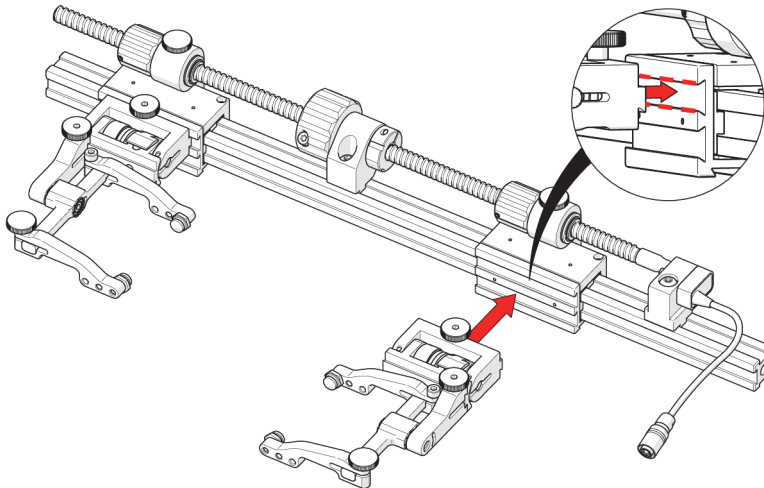

Figure 3-14 Mount probe holders
1. Attach the probe holders to the top groove on the mounting bracket of the slider (see Figure 3-14 on page 88 and “Slip Joint Probe Holder” on page 54).